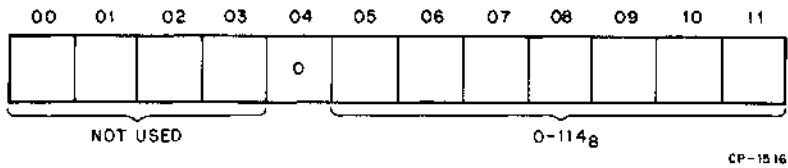

Figure 4-4 RXTA Format (RX8E)
4.3.3 RXTA – RX Track Address (Figure 4-4)